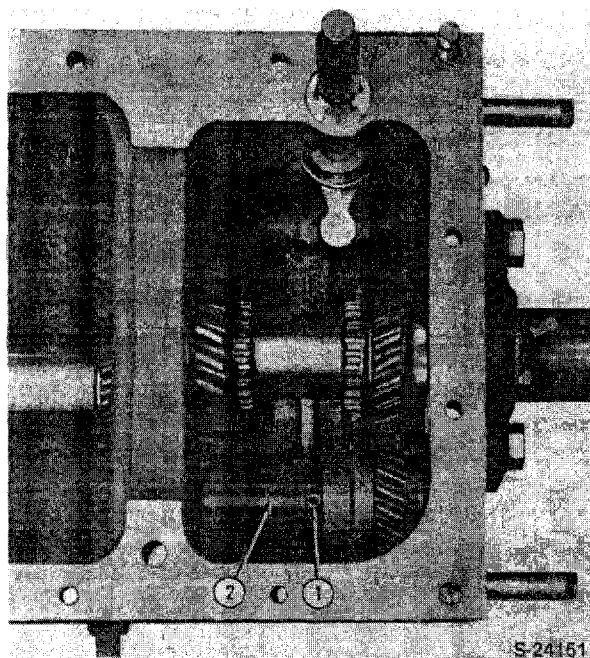

Figure 144
1. Drive the roll pin (1) out of the shaft, Figure 144.